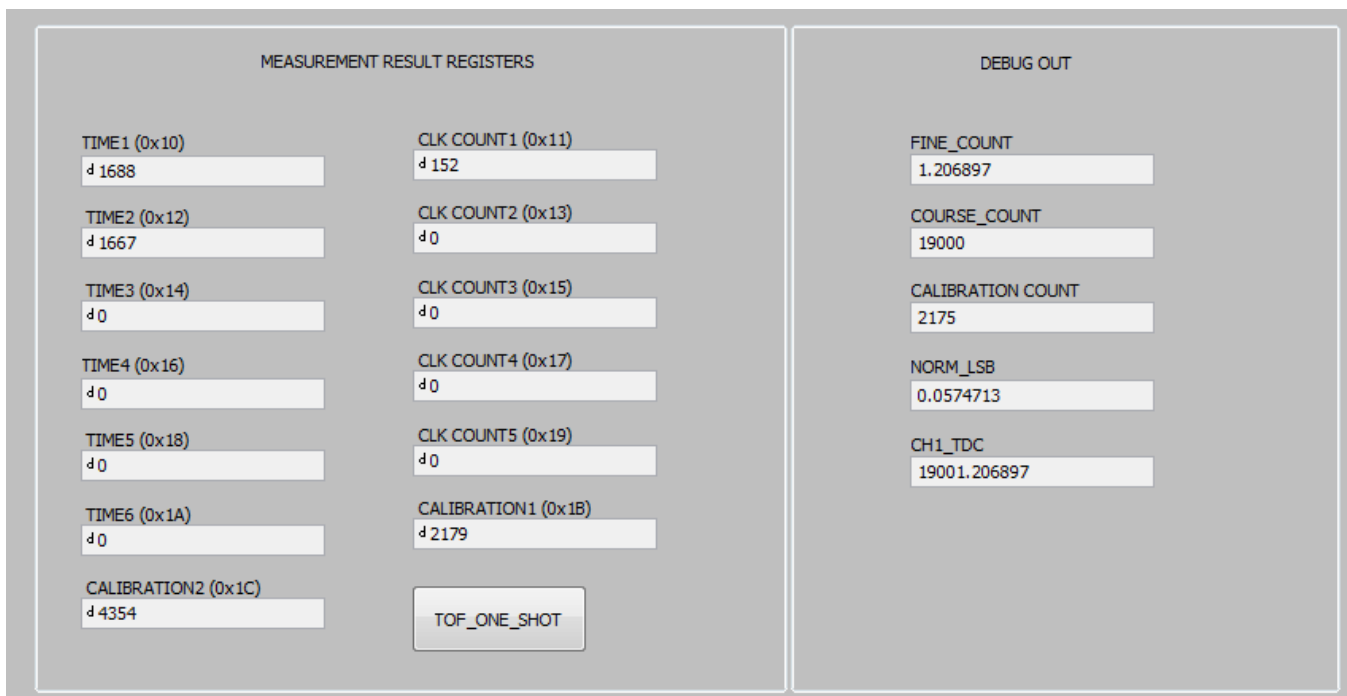

Figure 9. Measurement Results
- (b) You should be able to see SIMILAR measurement results register values as shown in Figure 9 (assuming you follow the instructions as specified in Section 6.1).
- (d) Use the values reported in the Measurement Result Registers (Figure 9) to validate the time-of-flight as ~19us (assuming you follow the instructions as specified in Section 6.1).